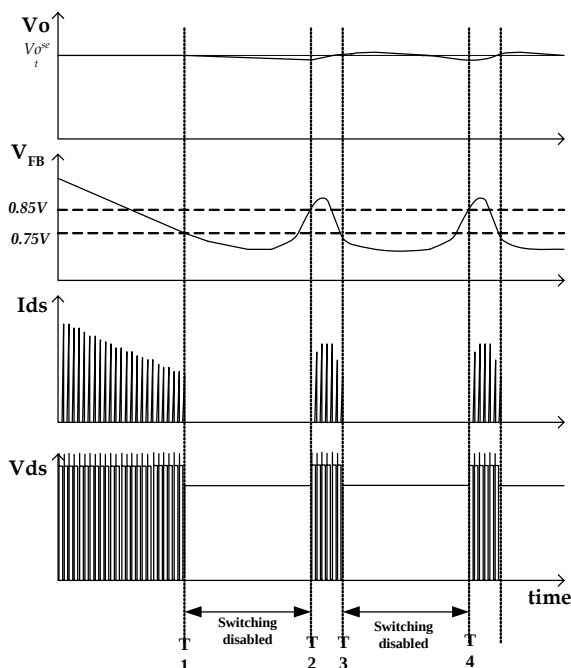

Figure 10. Burst-Mode Operation
**6. Burst-Mode Operation:** To minimize power dissipation in standby mode, the FPS enters burst-mode operation. As the load decreases, the feedback voltage decreases. As shown in Figure 10, the device automatically enters burst mode when the feedback voltage drops below  $V_{BURL}$  (750mV). At this point, switching stops and the output voltages start to drop at a rate dependent on standby current load. This causes the feedback voltage to rise. Once it passes  $V_{BURH}$  (850mV), switching resumes. The feedback voltage then falls and the process repeats. Burst-mode operation alternately enables and disables switching of the power SenseFET, thereby reducing switching loss in standby mode.